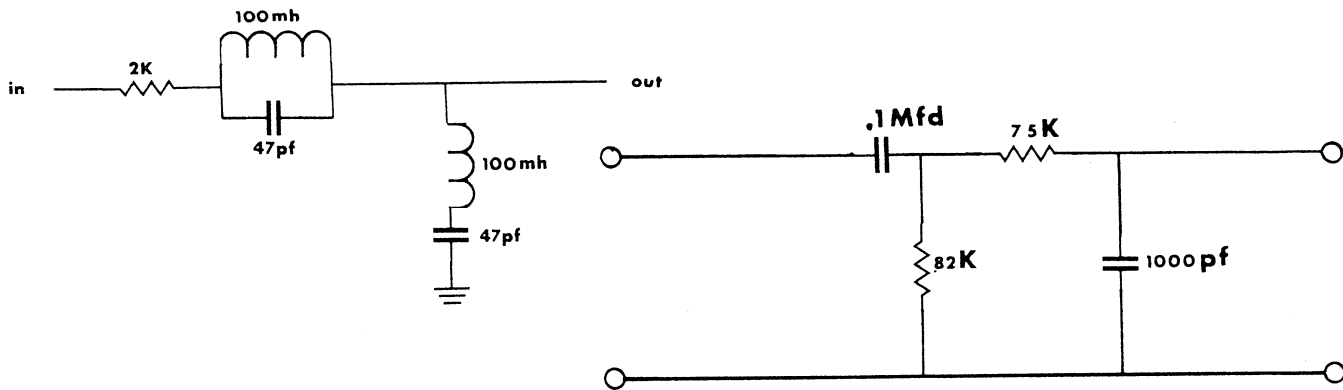

FIG. 10-5 20Hz-20KHz BANDPASS FILTER
- Noise Filter (20Hz-20KHz bandpass) See figure 10-5
- B. Insert bandpass filter (20Hz to 20KHz) between recorder and audio voltmeter. (See fig. 10-5)